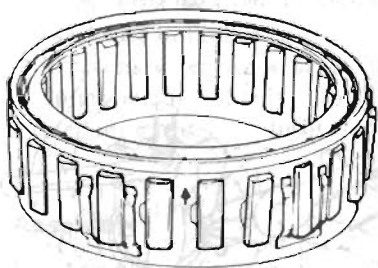

Fig. AT-71 One-way clutch
3. Install one-way clutch so that the arrow mark "→" is toward front of vehicle. It should be free to rotate only in clockwise direction. See Figure AT-71.